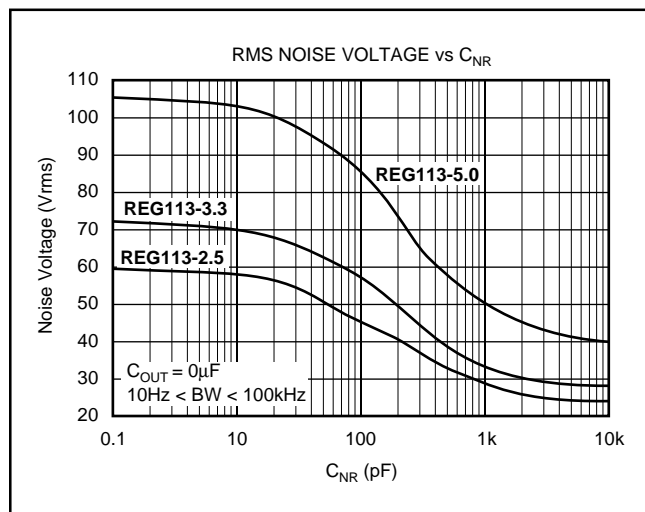
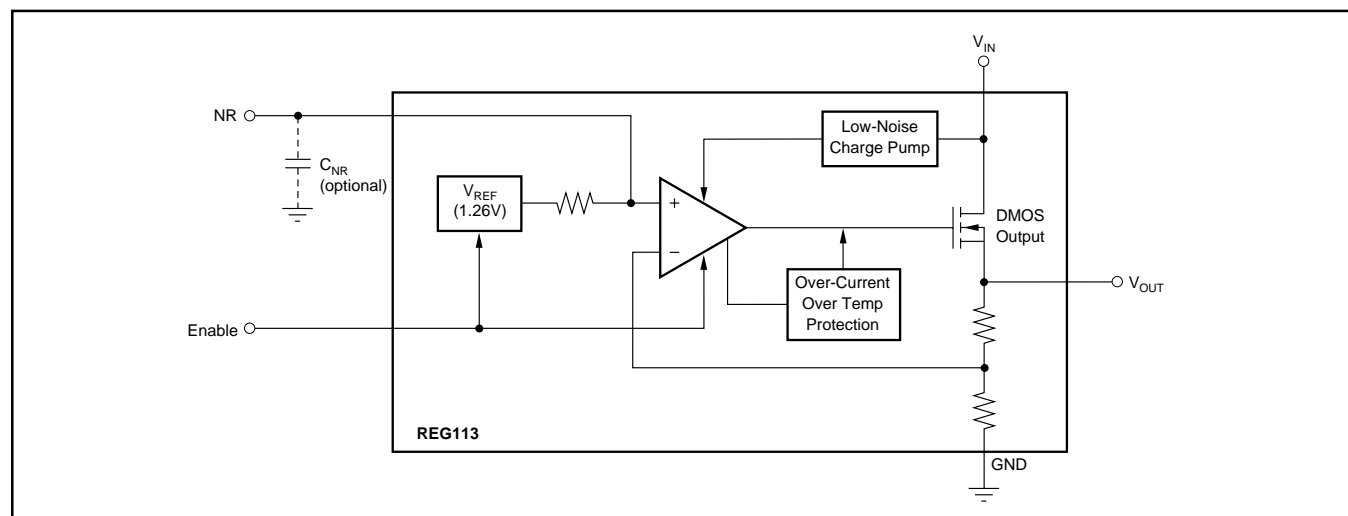

FIGURE 4. Output Noise versus Noise Reduction Capacitor.
FIGURE 3. Block Diagram.
Connecting a capacitor,  $C_{NR}$ , from the Noise Reduction (NR) pin to ground (as shown in Figure 3) forms a low-pass filter for the voltage reference. For  $C_{NR} = 10nF$ , the total noise in the 10Hz to 100kHz bandwidth is reduced by approximately a factor of 2.8 for  $V_{OUT} = 3.3V$ . This noise reduction effect is shown in Figure 4, and as *RMS Noise Voltage vs  $C_{NR}$*  in the Typical Characteristics section.